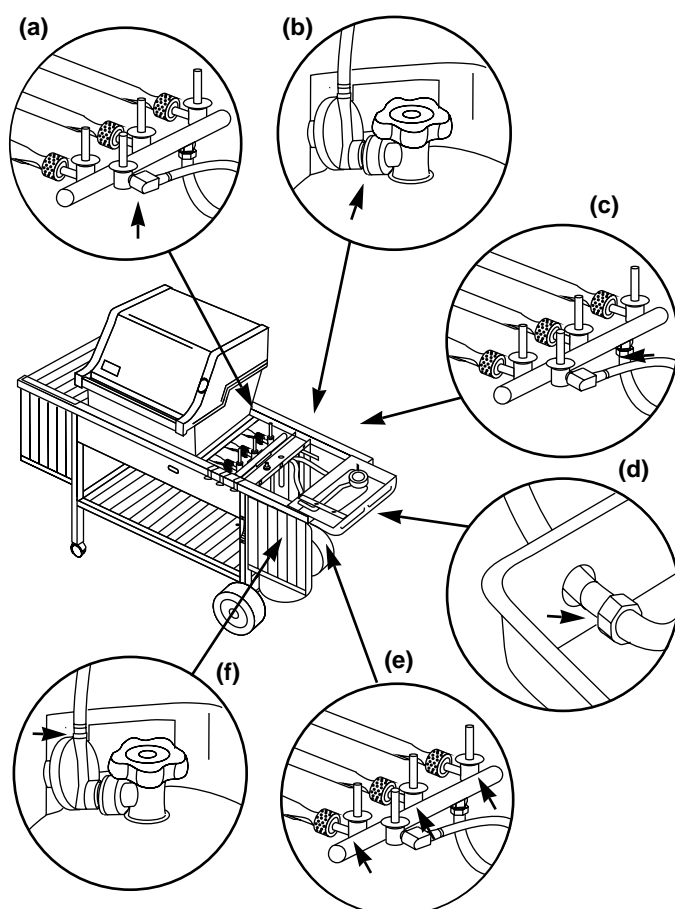

Figure 14
- Hose to manifold connections. Figure 14 (a).
- Regulator to tank connection. Figure 14 (b).
- Manifold to side burner hose connection. Figure 14 (c).
- Side burner hose to side burner connection. Figure 14 (d).
- Valves to manifold connection. Figure 14 (e).
- Hose to regulator connection. Figure 14 (f).